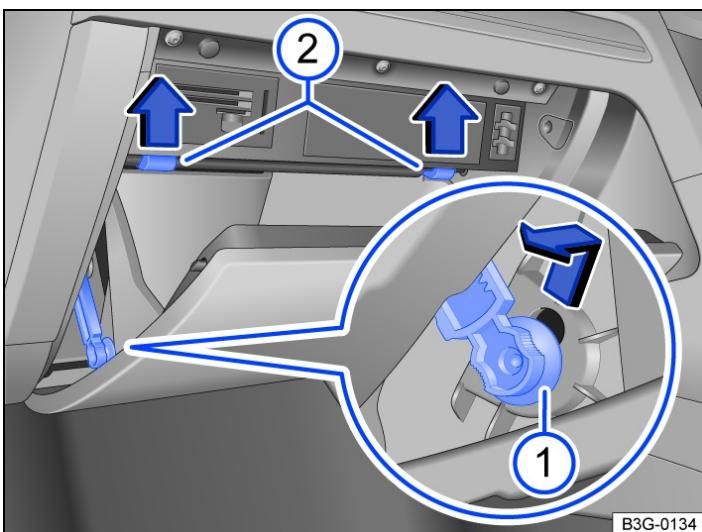

Fig. 2 Fuse box cover in the dash panel: right-hand drive vehicle, on the front passenger side.
— Open the glove box and empty if necessary → *Fig. 2*.
— Push damper element upwards into the opening of the holder and pull out to the side → *Fig. 2* ①.
— Push catches upwards in the direction of the arrow at the same time open the stowage compartment further → *Fig. 2* ②.
— To *install*: move the stowage compartment into position. Insert the damper element into the opening in the holder and slide upwards until it engages audibly. Carefully push the stowage compartment forwards beyond the resistance of the catches → *Fig. 2* ②.